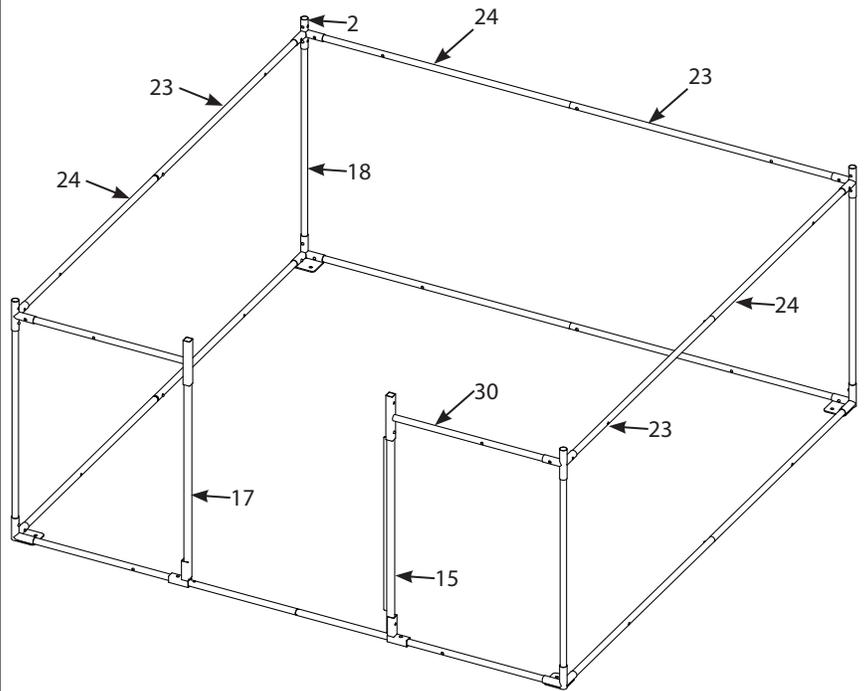

FIGURE 3
3. Attach the four middle hubs (2) to the (18) poles so that the snap buttons secure the parts together. **SEE FIGURE 3.**
Attach the two (30) parts to the middle hubs (2) and the (15) and (17) poles as shown. The end that attaches to the middle hub does not attach with a snap button and will be secured together with hardware in a later step. **SEE FIGURE 3.**
Slide each (24) pole into the corresponding (23) pole so that the snap button secures both parts together. **SEE FIGURE 3.**
Slide the three assembled (23, 24) poles into the four middle hubs (2). These do not attach with snap buttons and will be secured together with hardware in a later step. You should now have the middle tier frame of the blind assembled. **SEE FIGURE 3.**